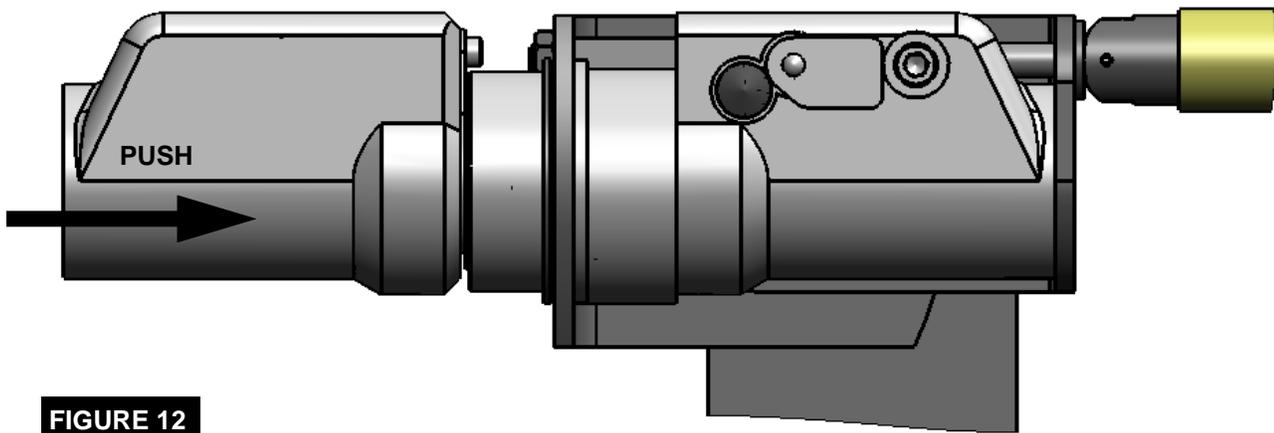

FIGURE 12
5. **Make sure the Bleed Valve is open**, then insert the Male Plug into the Female Socket as far as possible using only hand pressure. As shown in Figure 12.